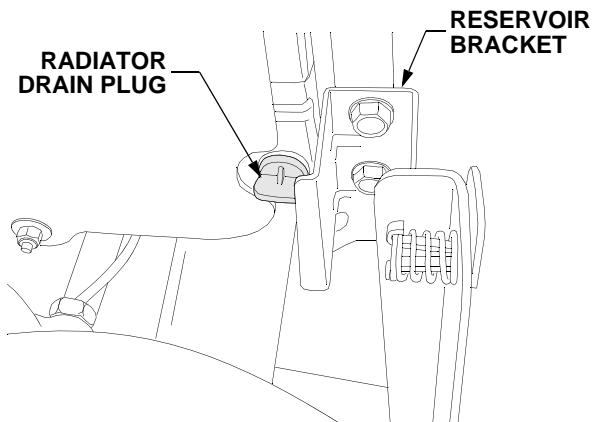

Figure 56
- Locate the radiator drain plug in the lower right rear corner of the radiator. See Figure 56.